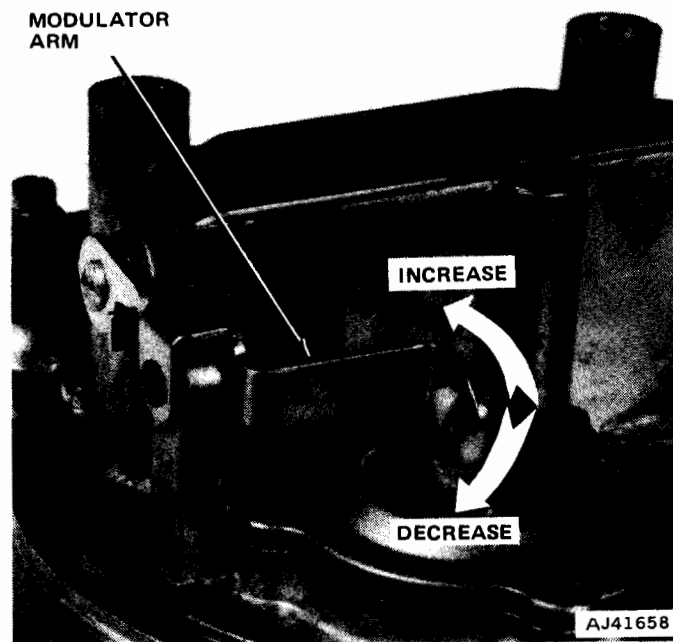

Fig. 4-53 Initial Choke Valve Clearance Adjustment
(4) Adjust by grasping modulator arm securely with a pair of pliers at point A and twisting the arm at point B with a second pair of pliers. Twist toward the front of the carburetor to increase clearance and toward the rear of the carburetor to decrease clearance (fig. 4-53).